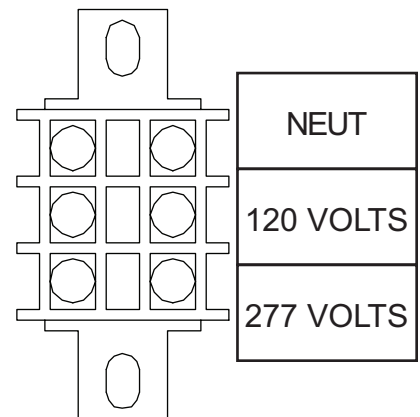

Figure 2:
3. Check the source voltage to see if 120 VAC or 277 VAC is being used. If 277 VAC is being used, make sure there is a 277 VAC input label next to the terminal block. (See Figure 2) If there is no 277 VAC input, contact Touch Plate immediately to get a step down transformer for the panel(s).